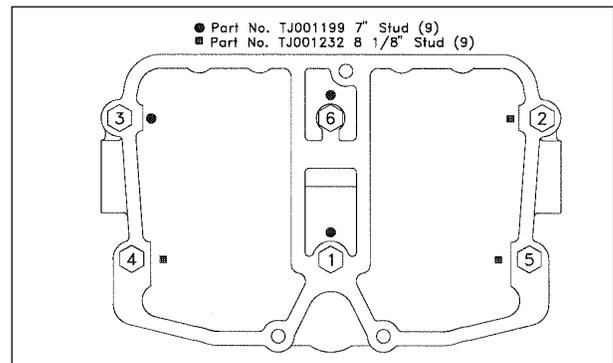

Figure 2-6
13. Remove three capscrews from each rocker housing in positions 1, 2, and 3 as indicated in Figure 2-6. **Do not remove all six of the capscrews at the same time, as this will permit the housing and gasket to move.**
15. Install studs supplied with kit in positions 1, 2 & 3 as indicated in Figure 2-6. Torque studs to 70 lbft (95 N*m).
16. Remove capscrews from positions 4, 5 & 6 as indicated in Figure 2-6. Install new studs and torque to 70 lbft).